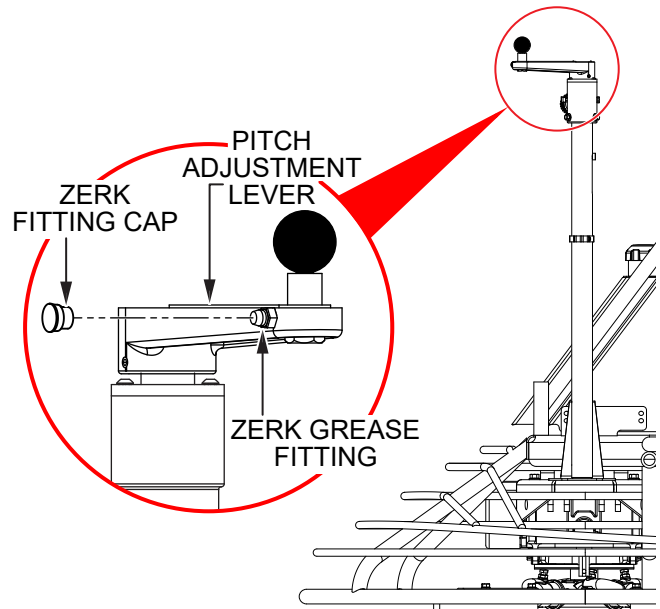

Figure 28. Pitch Adjustment Lever Lubrication
1. Locate the Zerk grease fitting next to the knob on either pitch adjustment lever (Figure 28). Remove the Zerk grease fitting cap and set it aside.